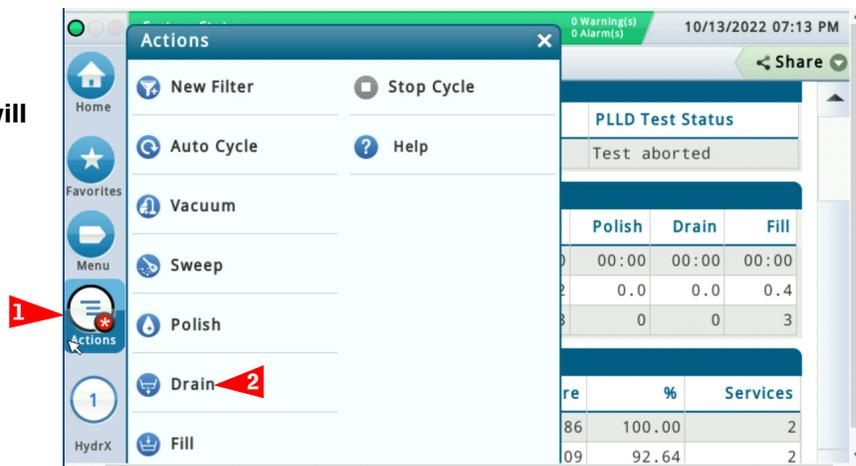

Figure 5. HydrX Diagnostics Overview Actions Menu
2. Touch the **Actions** button (Item 1, Figure 5) to open the HydrX diagnostic service buttons menu (see Figure 5). Note: Gray Action buttons are disabled.
3. Touch the **Drain** button (Item 2, Figure 5) to run a Drain cycle. The Drain Cycle interval depends on time entered in HydrX setup.